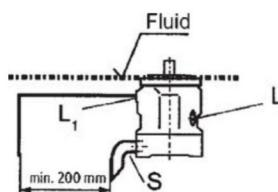

Fig. 1
- If the minimum fluid level is equal to or above the pump mounting face close port "L" plugged, leave ports "L₁" and "S" open; L₁ piped and recommendation S piped (see Fig.1).